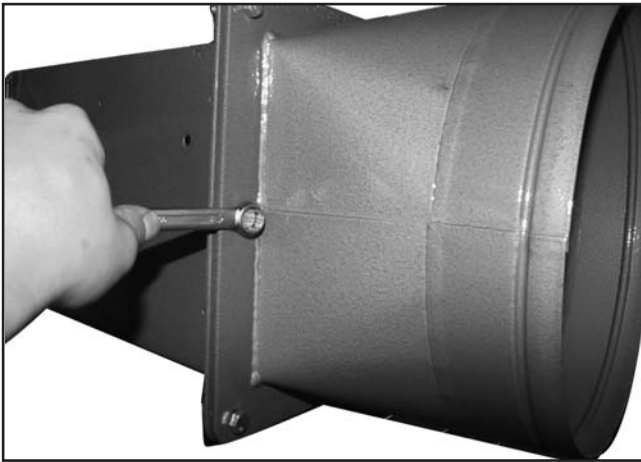

Figure 5. Installing outlet.
1. Place the outlet gasket and outlet over the exhaust fan, and secure with (10) $\frac{5}{16}$ "-18 x 1" hex bolts, 20 flat washers, and 10 hex nuts, as shown in **Figure 5**.